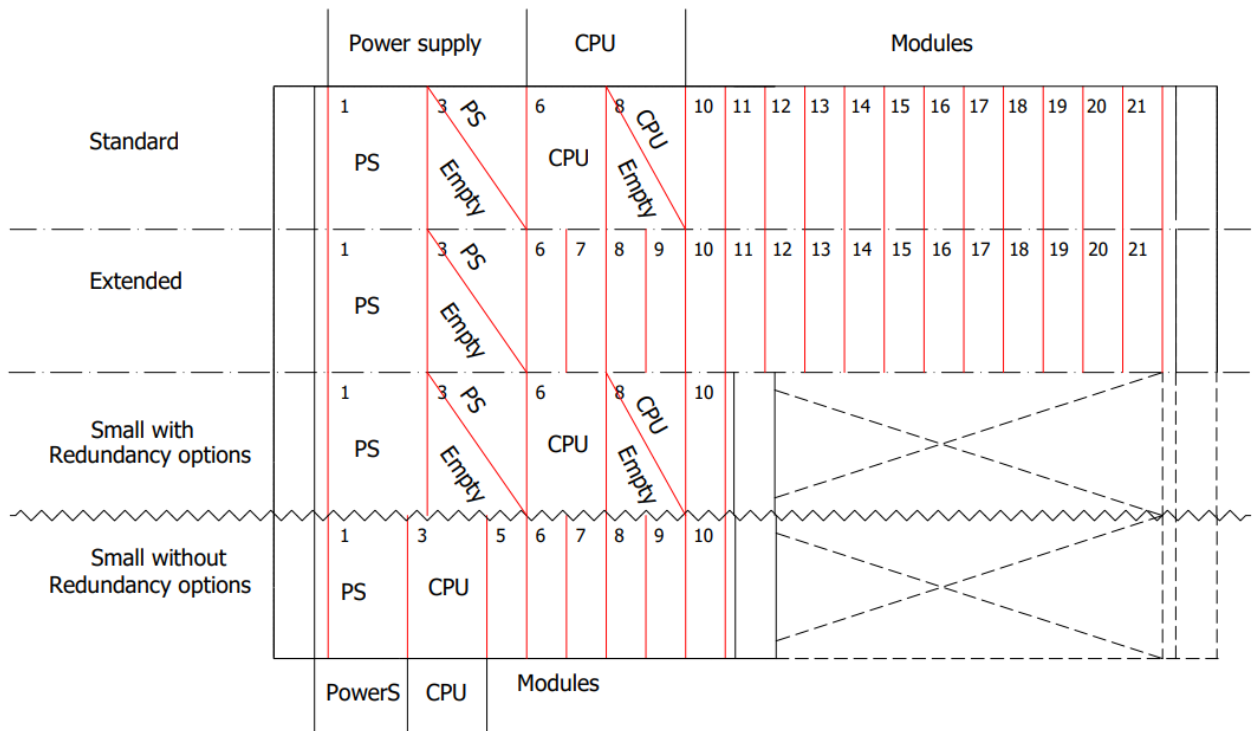

Figure 5. Enilit RTU, Front view
- Number of I/O and communication modules depends on which type of frame is selected, there is no difference for Enilit RTU in which sequence or type (DI, DO, AI, ST, PL, CD, CK or LAN) the modules are installed in the rack. Refer to table 5 for the number of modules, meanwhile refer to Figure 5 to view all the RTU frame content options based on power supply and size/type of the frame.